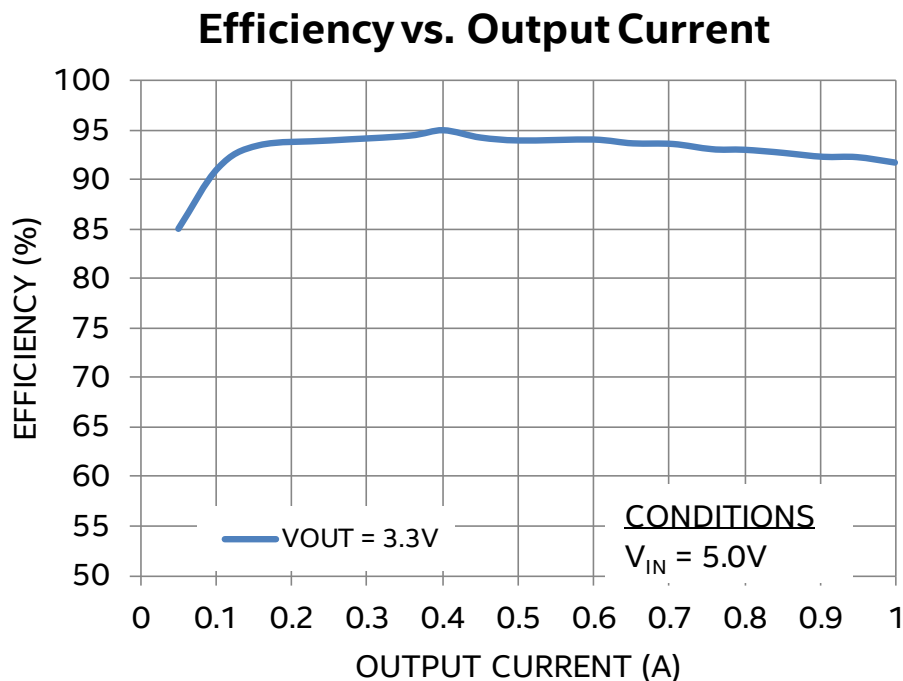

Figure 6: Efficiency vs. Output Current
Next, determine the input power based on the efficiency ( $\eta$ ) shown in Figure 6.
**Recommendation 8:** Keep  $R_A$ ,  $C_A$ , and  $R_B$  close to the VFB pin (see Figures 6 and 7). The VFB pin is a high-impedance, sensitive node. Keep the trace to this pin as short as possible. Whenever possible, connect  $R_B$  directly to the AGND pin instead of going through the GND plane.